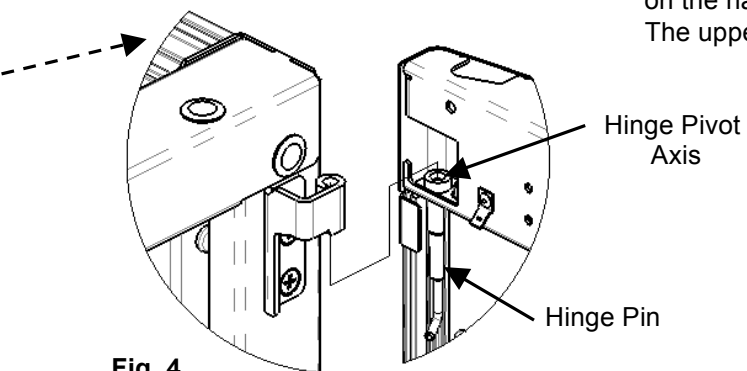

Fig. 4
5. Bring the door frame vertical and align the upper hinge pin with the hinge pivot axis in the door extrusion. Engage the upper hinge pin in the door by pulling down on the spring loaded hinge pin handle. Make sure pin is fully engaged with hinge. (Fig. 4).